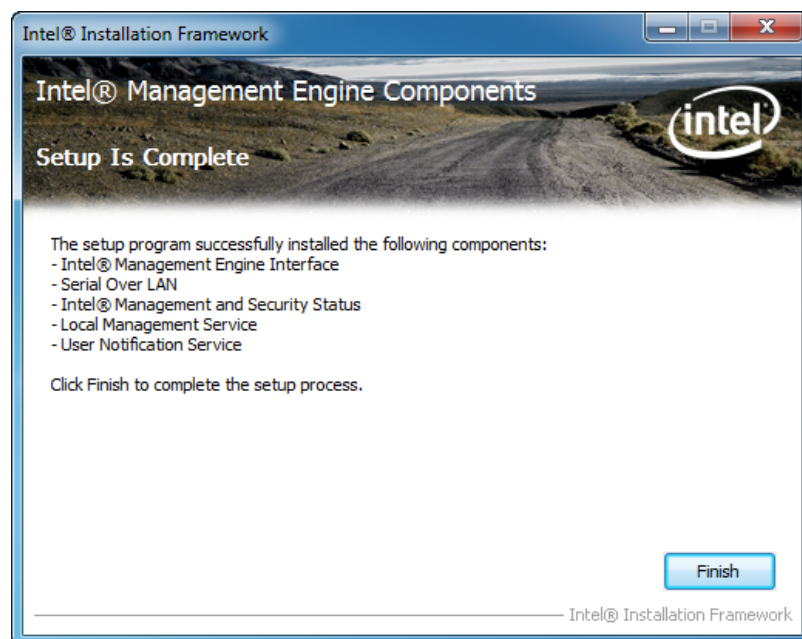

Figure 6-32: Intel® ME Driver Installation Finish Screen
Step 13: The **Finish** screen in **Figure 6-32** appears.